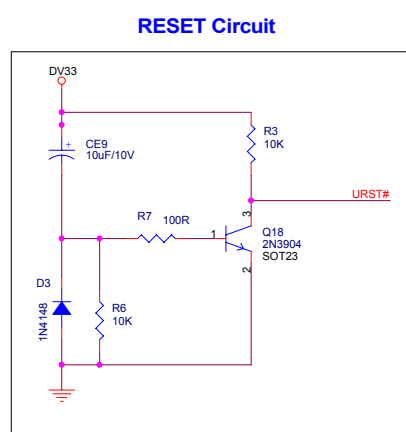

Figure 3.2.8.1 Reset circuit diagram
1. Reset circuit is shown as in the following figure 3.2.8.1: